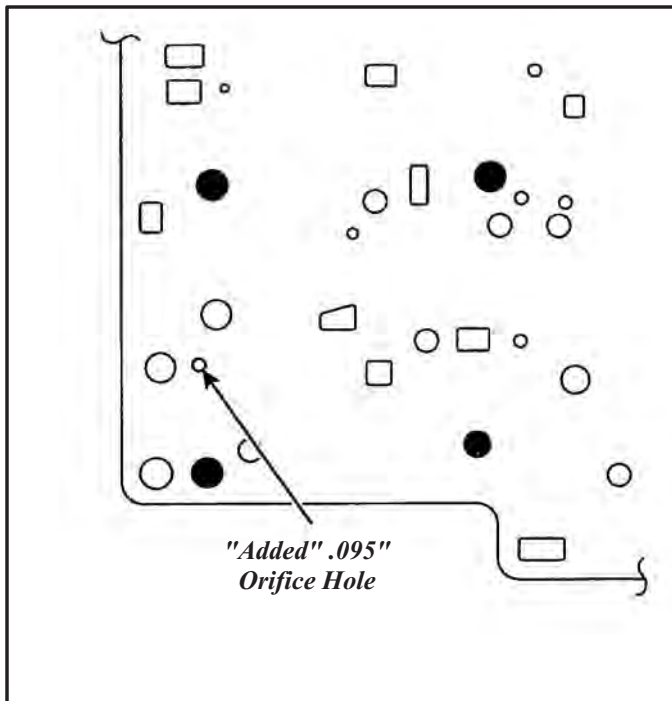

Figure 74
- (3) VALVE BODY SPACER PLATE - .095" orifice for the new number 11 checkball added in the location shown in Figure 74, which is now the orifice for feed oil to the reverse input clutch. Refer to Page 37 for identification and part numbers of 1993 spacer plates.